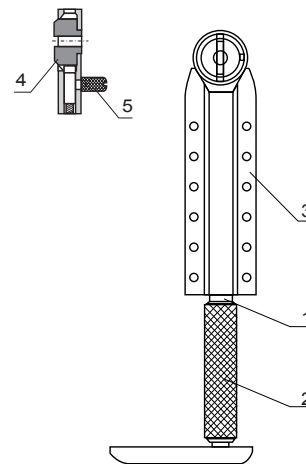

Fig. 9 – Bipod
13. The bipod (Fig. 9) is used as a rest in firing. The bipod height can be adjusted if necessary by means of a clamping guide which fixes the bipod at the height required. The bipod has two positions: folded and extended.